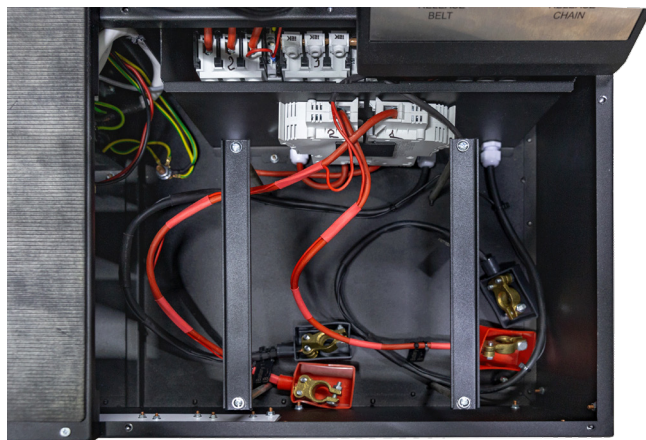

Figure 10. Location of the storage batteries in the bench.
1. Connect 12 V batteries, which must be placed in the battery compartment of the test bench (see Fig. 10). When connecting the batteries, follow the markings on the power cables. If only one battery (BAT1 or BAT2) is connected, only the 12 V diagnostic mode will be available; the 24 V mode will not be accessible.